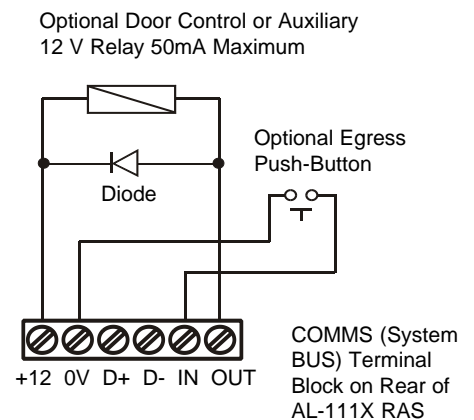

Figure 5. Optional IN and OUT Terminal Application
- **IN** - An egress button (normally open, momentary push-button switch) can be connected across the “IN” and “0V” terminals (see Figure 5). When pressed, the button controls the request-to-exit function to the panel.